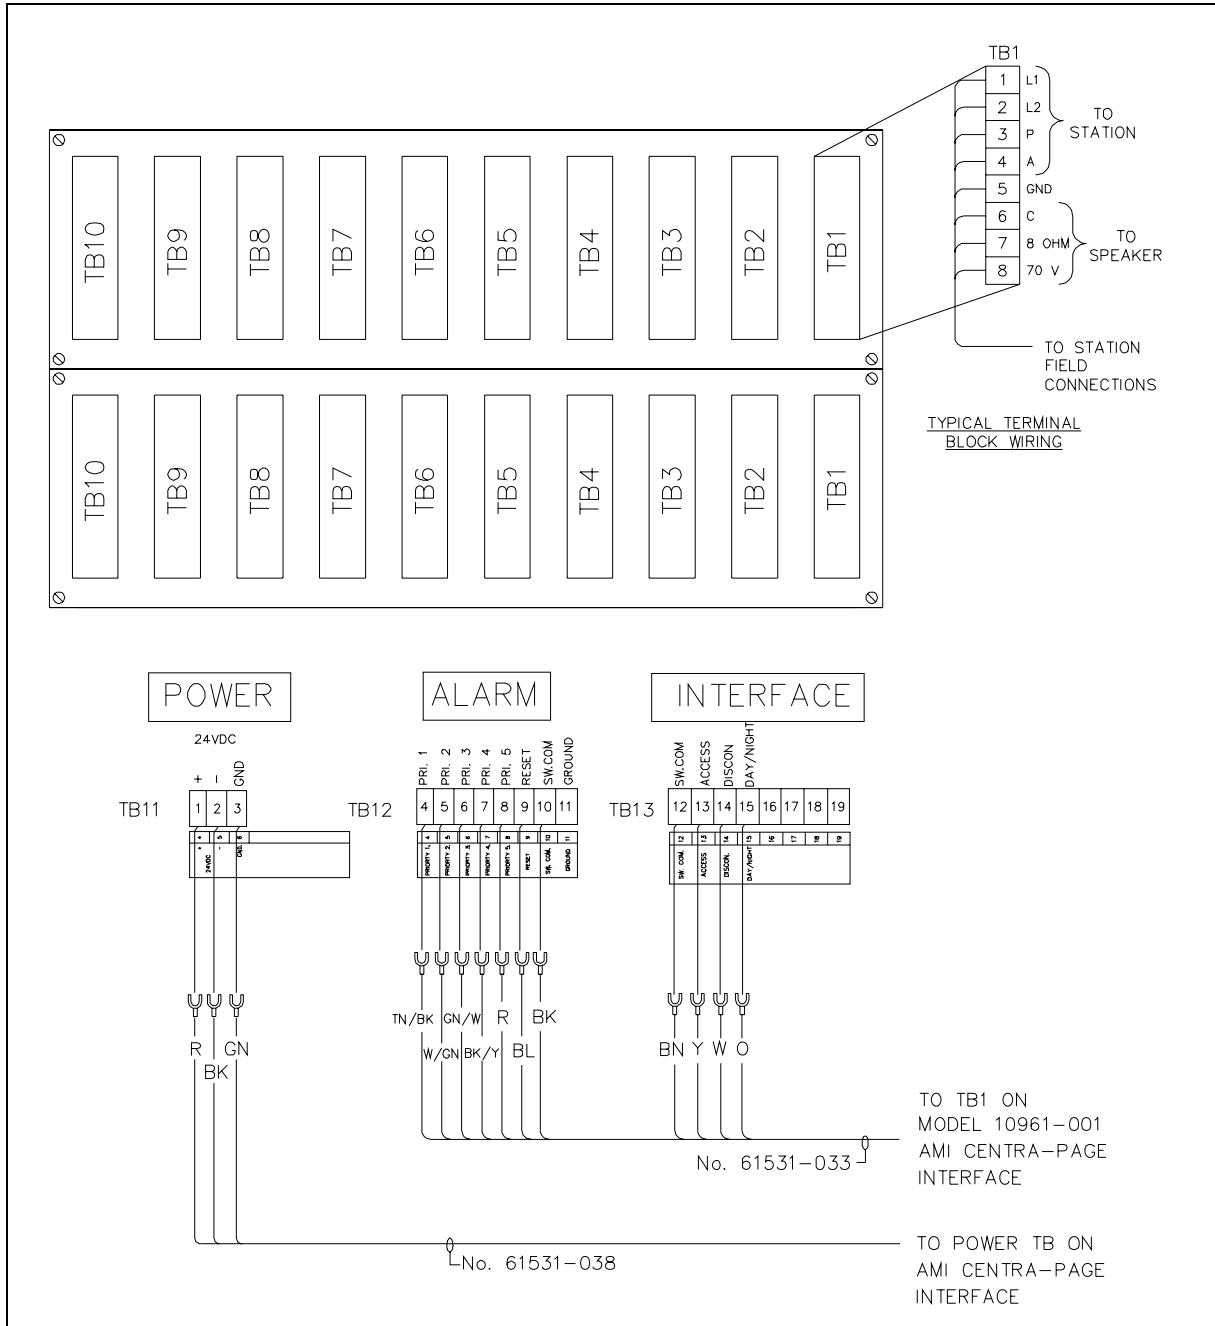
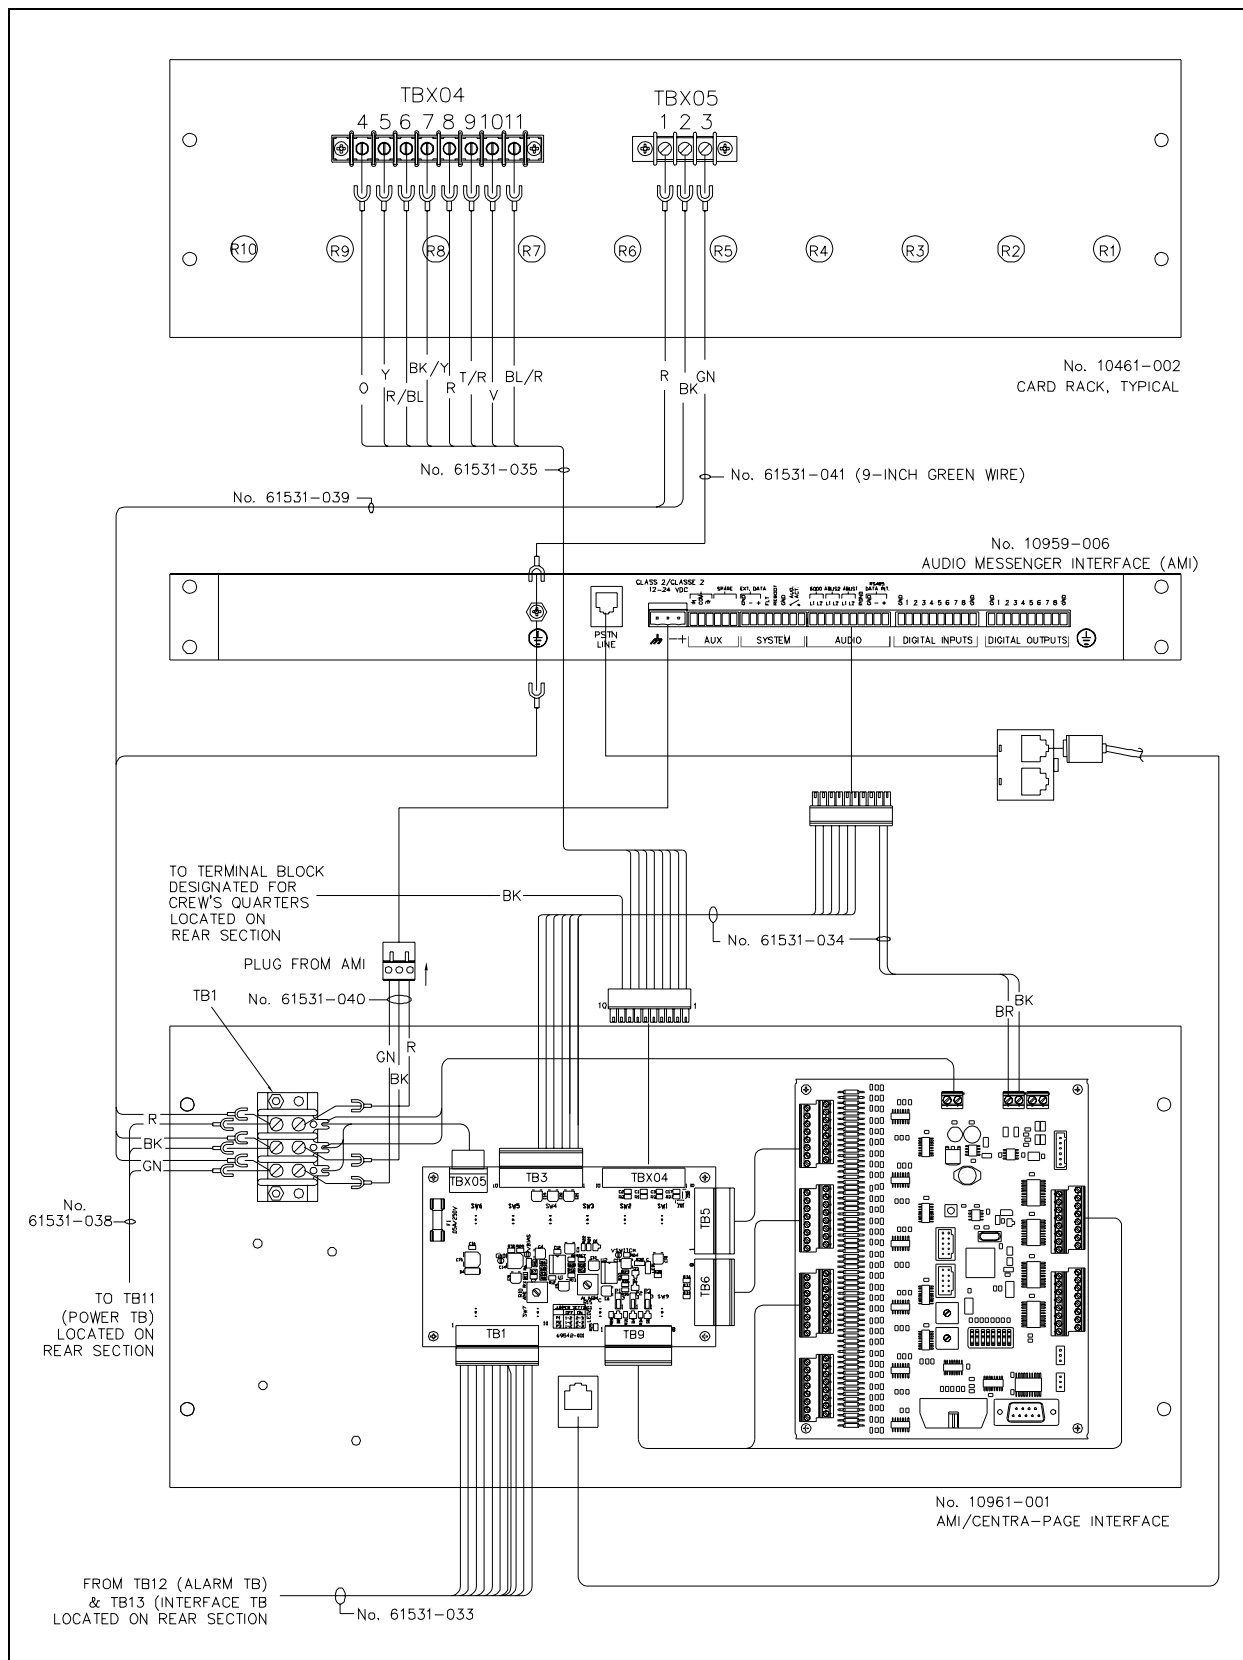
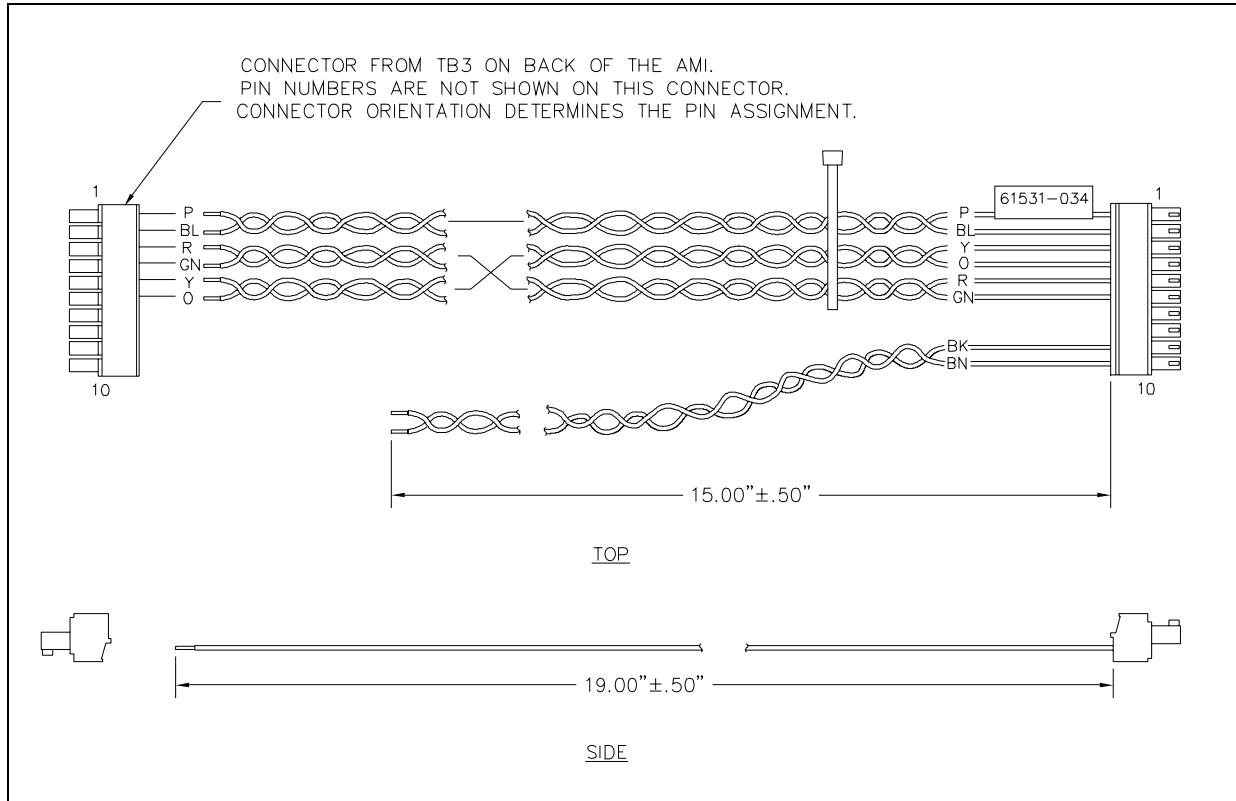

Figure 4. Wiring of Central Cabinet's the wall-mounted section
Figure 5. Wiring of the rear of the Central Cabinet's center section
Figure 6. 61531-034 Cable Assembly
- Make all the required wiring connections before mounting the Model 10961-001 AMI Centra-Page Interface. Refer to Figure 4 and Figure 5.
4. Remove TB3 (AUDIO) connector from the back of the AMI. Attach the mating end of the connector to the 61531-034 cable assembly. See Figure 6. Using this 10-position removable terminal block, connect the six wires from positions 1 through 6 of the 61531-034 cable assembly. The brown and black wires from positions 9 and 10 are not connected to this terminal block. Refer to Figure 5.
11. Connect the 61531-038 cable assembly to the central cabinet's TB11 located on the rear panel. See Figure 4.
13. Install the Centra-Page terminal block label beneath TB13 on the central cabinet's rear panel. Connect the 61531-033 cable to the central cabinet's back panel TB12 (ALARM) and TB13 (INTERFACE). Refer to Figure 4.